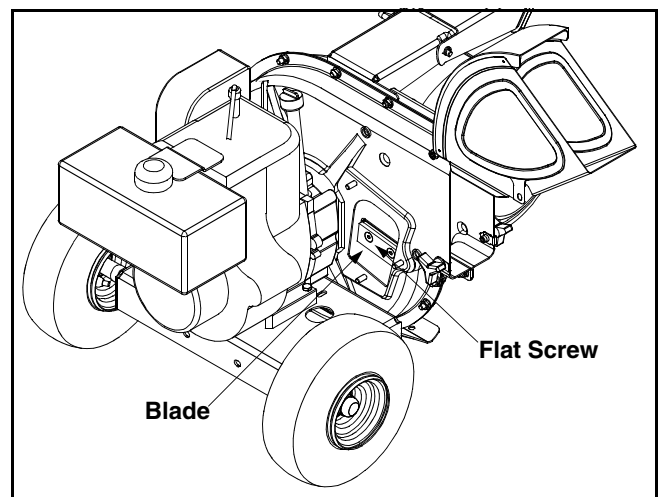

Figure 9
- Remove the blade using a 3/16" allen wrench on the outside of the blade and an adjustable wrench on the impeller assembly. See Figure 9.